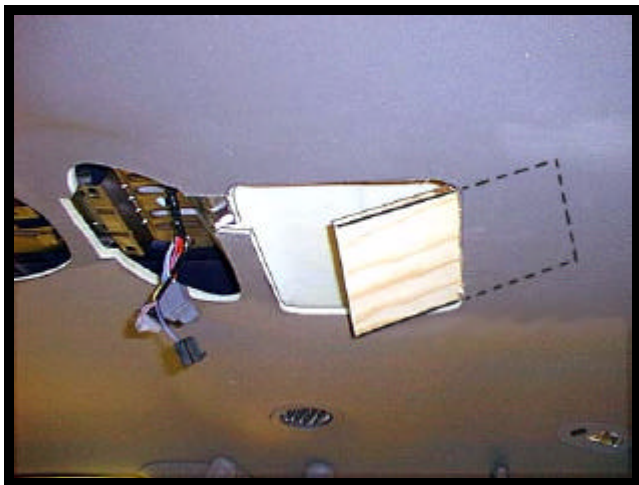

Figure 2
2. Install plywood block (item 18 pg 2) provided in kit through modified louver opening and secure in place using two (2) # 8 x 9/16" PWH screws (item 3 pg2). See Figure 2 and 3.